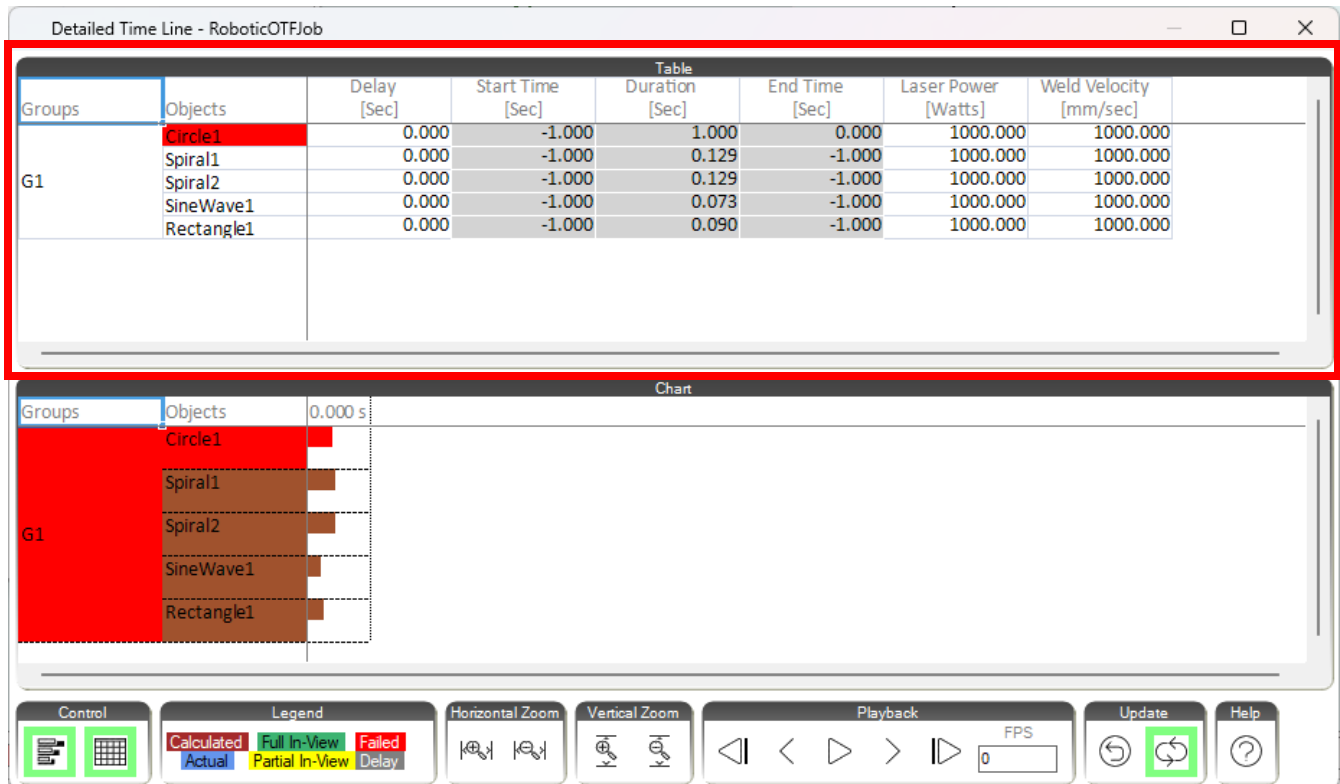

Figure 351: Object Parameter Table
- **Object Parameter Table** - This outlines all the Process Objects within the job. Here users can find and modify primary parameters such as Laser Power and Weld Velocity. Users can also view Start, End, and Duration times. Additionally, users can easily modify delay timings for prior to object processing. See Figure 351 (below).